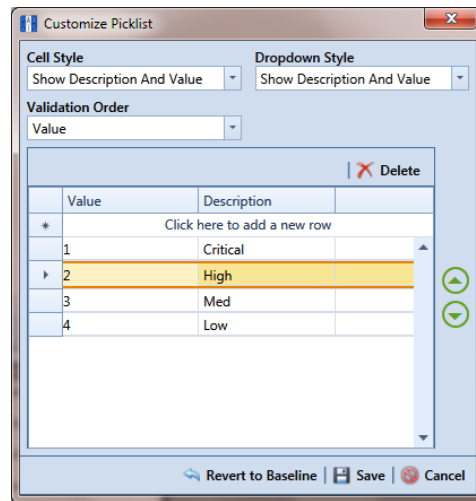

Figure 2-36. Customize Picklist
- 6 Click the edit icon  again for the data entry field converted earlier to a picklist to open the *Customize Picklist* dialog box (Figure 2-36).
- a** Click the message *Click here to add new row* to add an empty row of fields for data entry (Figure 2-36, page 69).